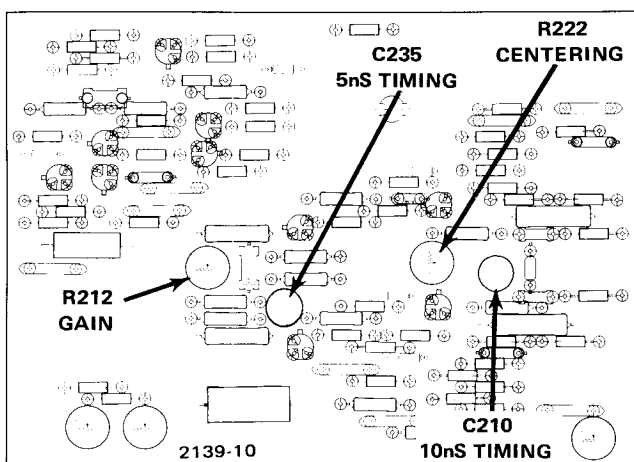

Fig. 5-5. Location of Horizontal Amplifier adjustments.
c. ADJUST—Horizontal Centering R222 to position the trace to the center vertical graticule line. See Fig. 5-5 for adjustment location.
f. ADJUST—C210 for one 10 nanosecond marker per division over the center eight major graticule divisions of the display. Sweep accuracy is $\pm 5\%$ over the entire sweep, excluding the first 30 ns and the last 10 divisions of the magnified sweep. See Fig. 5-5 for adjustment location.
e. ADJUST—C235 for one 5 nanosecond marker per division over the center eight graticule divisions of the display. Sweep accuracy is $\pm 6\%$ over the entire sweep, excluding the first 30 ns and the last 10 divisions of the magnified sweep. See Fig. 5-5 for adjustment location.
d. ADJUST—Horizontal Centering R222 to position the trace to the center vertical graticule line. See Fig. 5-5 for adjustment location.
d. ADJUST—Horizontal Gain R212 for 5 divisions of deflection. See Fig. 5-5 for adjustment location.
- e. ADJUST—C210 for one 10 nanosecond marker per division over the center eight major graticule divisions of the display. Sweep accuracy is $\pm 5\%$ over the entire sweep, excluding the first 30 ns and the last 10 divisions of the magnified sweep. See Fig. 5-5 for adjustment location.
- e. ADJUST—C235 for one 5 nanosecond marker per division over the center eight graticule divisions of the display. Sweep accuracy is $\pm 6\%$ over the entire sweep, excluding the first 30 ns and the last 10 divisions of the magnified sweep. See Fig. 5-5 for adjustment location.